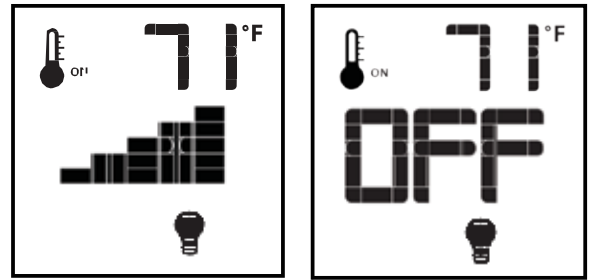

Figure 13: Dimmer light control.
The auxiliary function controls the AUX power outlet by the dimmable light control. To activate this function use the Mode Key (Figure 1) to index to the light bulb icon (Figure 13). The intensity of the output can be adjusted through six (6) levels. Use the Up/Down Arrow Keys to adjust the output level. A single “beep” will confirm reception of the command.